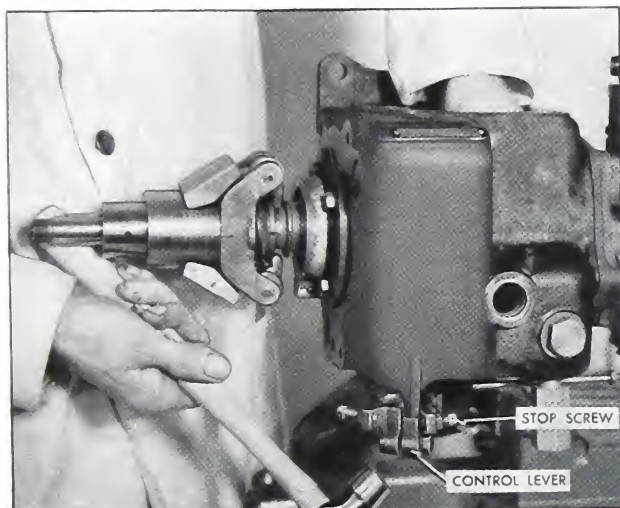

Fig. 5-147. Assembling fuel control lever
12. While holding down on the top end of the eccentric shaft, assemble the control lever to the eccentric shaft in stop position. (Fig. 5-147).